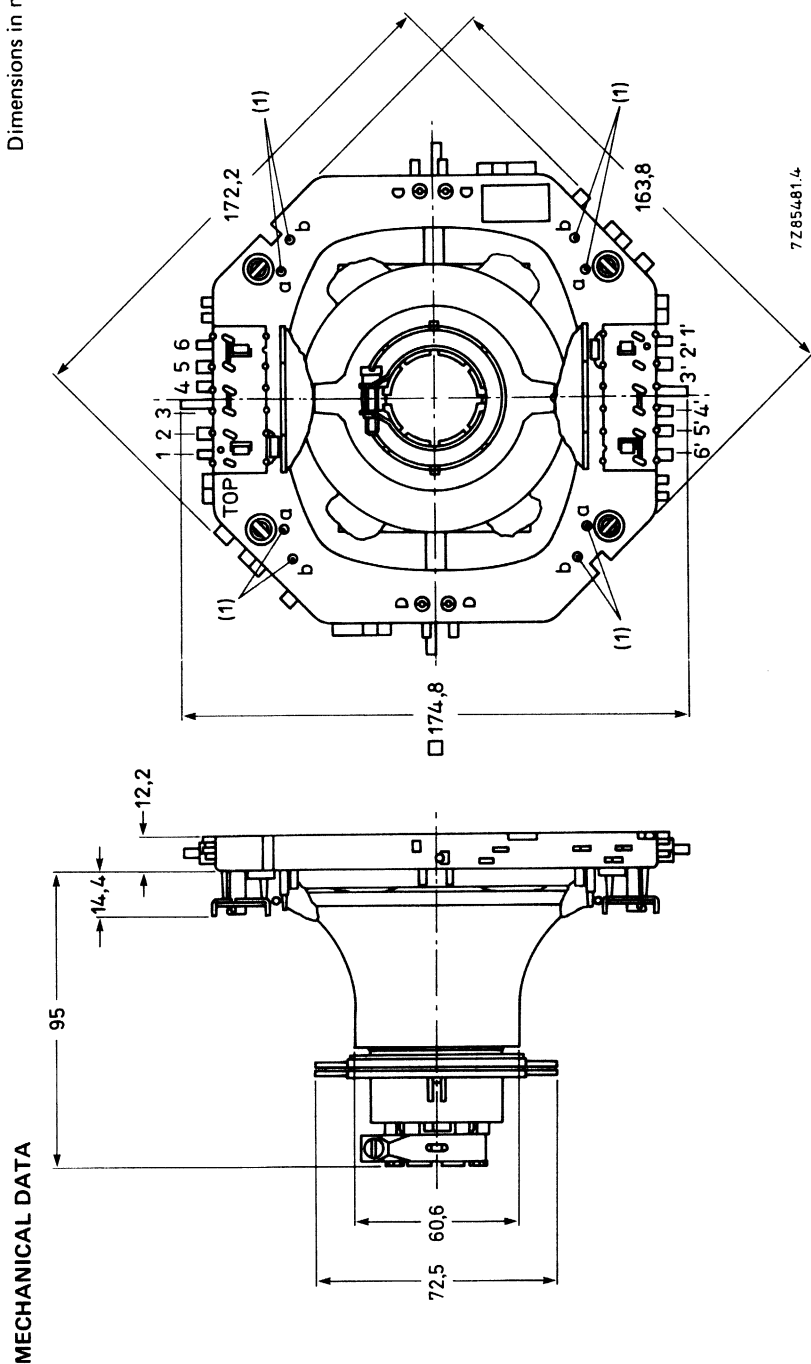

Fig. 1 Deflection unit AT1039/05.
If a further improvement of raster geometry is required use can be made of correction magnets*, which must be fitted to mounting posts (1). The unit has solder pins for connection. The pin numbering in Fig. 1 corresponds to that in Fig. 2.